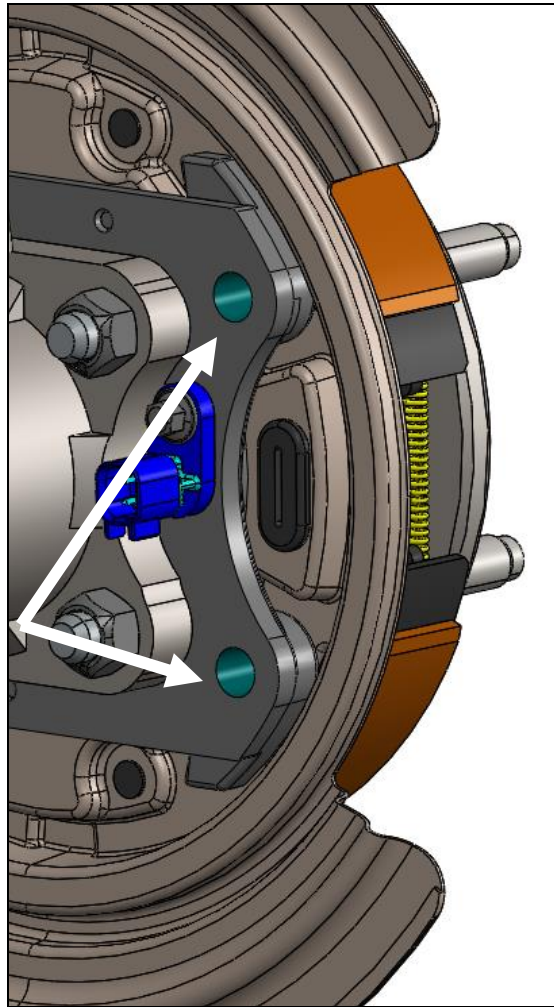

Figure 1: Axle Housing Flange Mounting Surface
4. Thoroughly clean the ***inboard*** mounting surface of the axle housing flange to ensure proper fitment of the new slider pins and base bracket. See Figure 1 for reference.